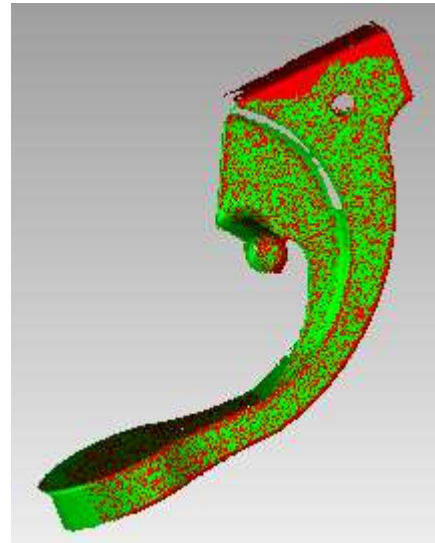

**Figure 40**
5. Pick the points as indicated in **Figure 40** on both the **Fixed** (red) and **Floating** scans (green) at approximately the same locations on each.